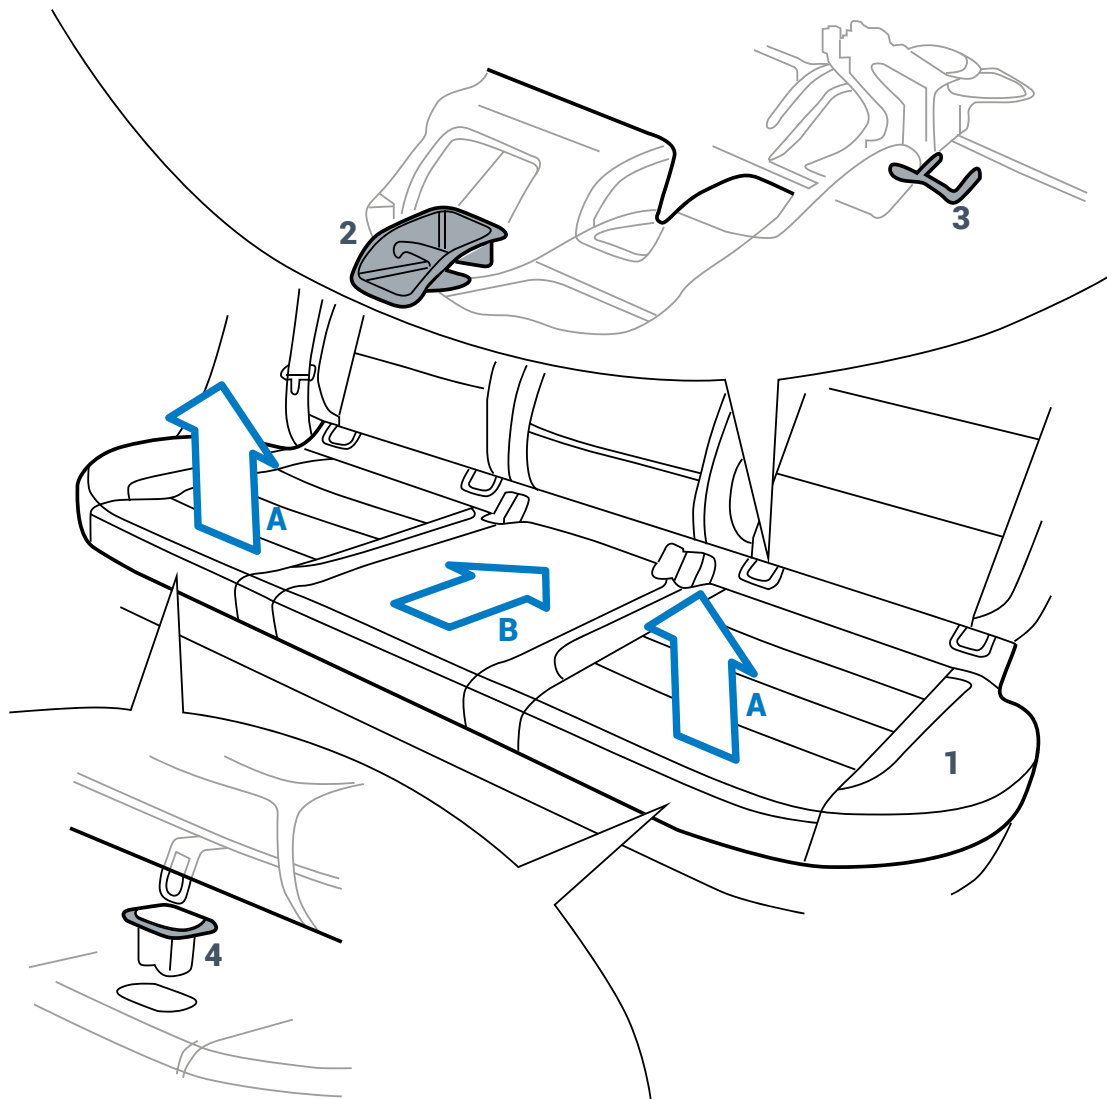

Fig. 3
6.1 Removing the rear seat (Fig. 3 point 1)
- 6.1.1 Remove the four plastic covers from the Isofix anchoring device of the rear seat (Fig. 3 point 2 / 3).
- 6.1.2 Lift the front part of the seat (Fig. 3 arrow A) to release the 2 stops (Fig. 3 point 4).